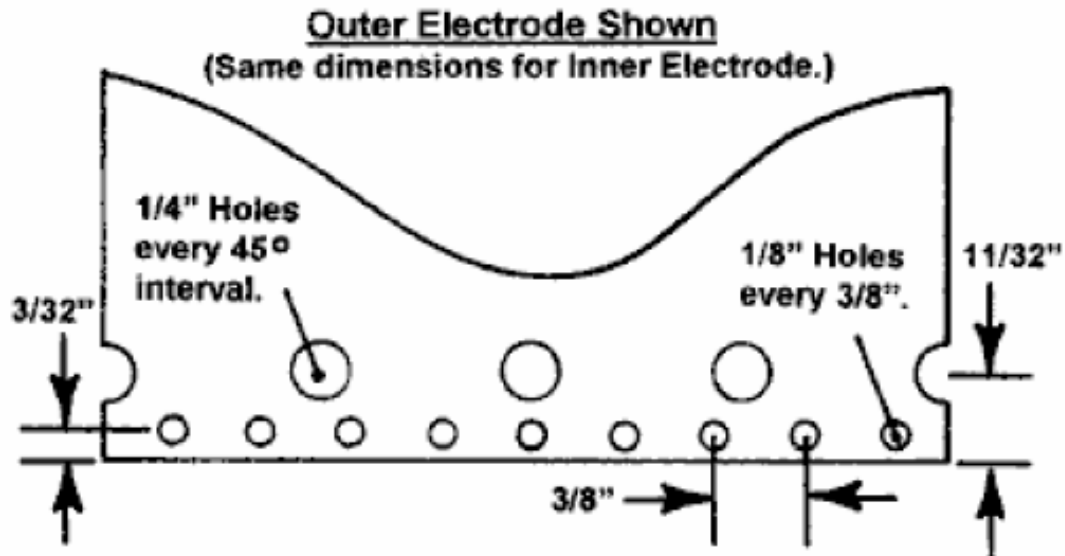

Figure 8: Electrode Details
6. Referring to the following Figure 8, drill eight (8) 1/4" holes, spaced at 45 degree intervals, around the diameter of one end of the outer electrode tube. Locate the hole centers 11/32" from the tube edge. Clamp a large diameter wood dowel or rod in a vise to back up the electrode while drilling. Deburr the holes after drilling.
7. Repeat the procedure of step 6 to drill eight (8) 1/4" holes at the same distance from the end of the inner electrode tube.
8. Referring again to Figure 8, drill 1/8" holes around the end of the outer electrode closest to the 1/4" holes. Locate the hole centers 3/32" from the tube edge, with hole centers spaced at 3/8" intervals around the entire diameter. Deburr the holes after drilling.
10. Referring to Figure 8, cut two (2) 3" rod lengths from 3/32" diameter bare stainless steel welding rod, alloy T304. Using a file, square off and deburr the rod ends.
11. Referring to Figure 8, solder one of the rods to the outside surface of the outer electrode. Position the rod parallel to the length of the electrode with 2" protruding past the end of the tube. Use silver-bearing solder and flux appropriate for soldering stainless steel.